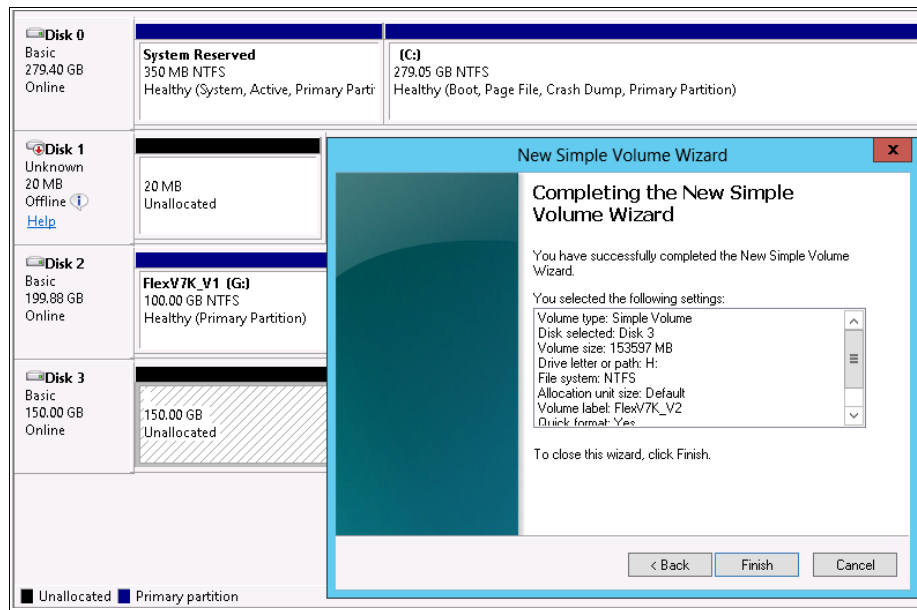

Figure 12-12 Completing the New Simple Volume Wizard
12. The wizard takes you through a number of windows where you can select the volume size, drive letter, and volume label. In Figure 12-12, the final window summarizes your options before completing the task when you click **Finish**.